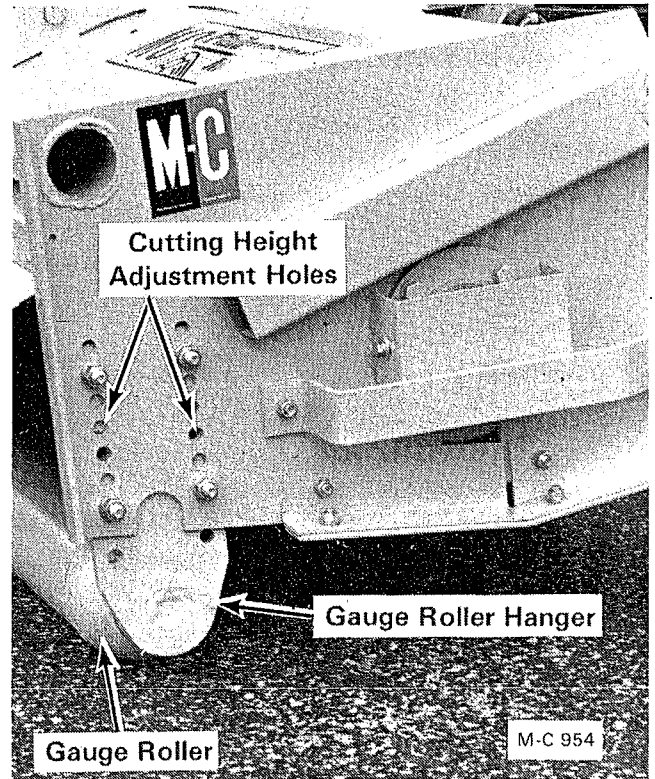

Figure 7 - Gauge Roller - Above S/N 49649
3. Figure 7 shows the gauge roller in position for 4" cutting height. Moving the gauge roller up or down one hole in the body will change the cutting height 1".